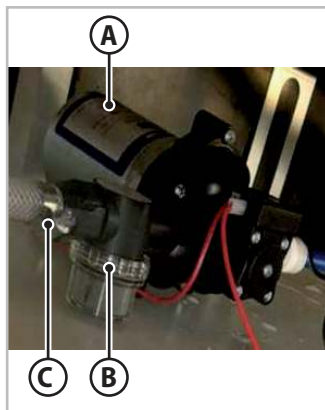

Fig.7.1 - External water pump filter
3. Access the water pump (A - Fig.7.1) by removing the cushions from the dinette sofa and removing the drinking water tank compartment lid.
4. Unscrew the plastic connection (C - Fig.7.1) between the filter and the drain tube.
5. Undo the transparent cover (B - Fig.7.1) on the filter and extract the filter body.